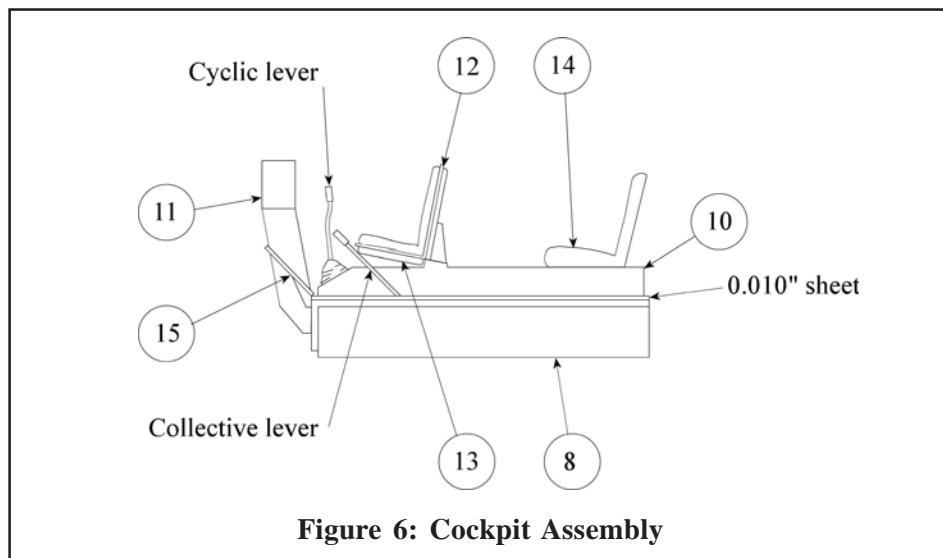

Figure 6: Cockpit Assembly
10. Install the centre console, instrument panel and rudder pedals, using Figure 6 as a guide. This is a good time to paint the cockpit interior and instrument panel, before in-
12. Construct a cyclic lever from 0.020" plastic rod according to Figure 6. Glue it in place, installed in the boot moulded to the front of the centre console. The collective lever is also made from plastic rod, installed at a 45 degree angle beside the pilots seat. Note that this is well before the HOTAS era; the stick handles are very simple (à la bicycle grips).